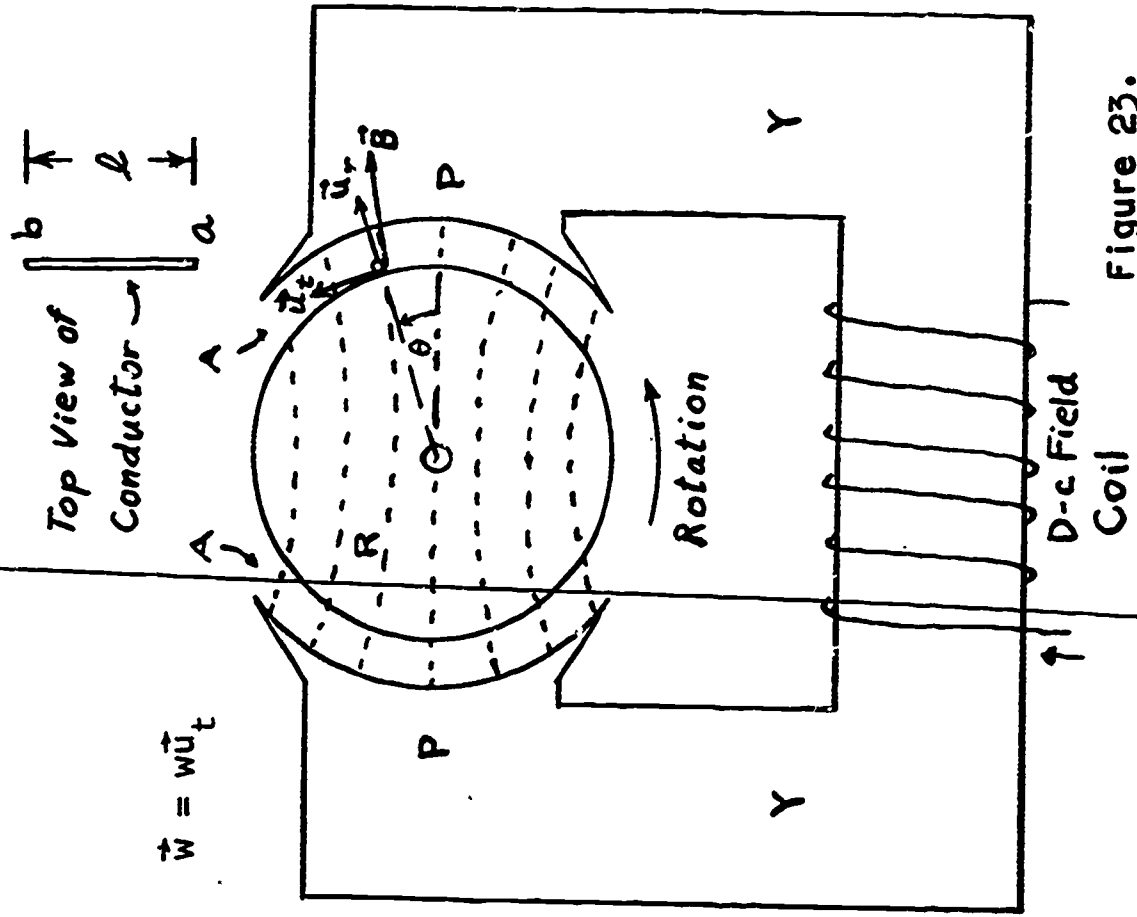

Figure 23.
The generalization developed in the previous frame is needed in order to discuss the generation of emf in an actual generator which includes a magnetic circuit consisting of a yoke (Y), pole pieces (P), air gap (A), and rotor (R), as shown in Fig. 23. Flux is produced by direct current in the field coil.